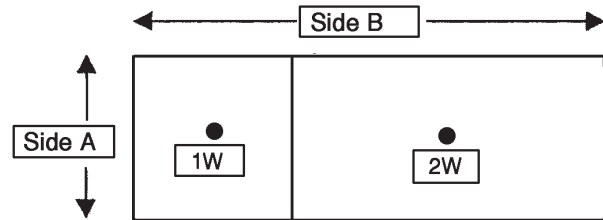

FIGURE 4-2
- ▶ Use Table 4-1 and Figure 4-2 to determine maximum module size for each nozzle.
Referring to Table 4-1 and Figure 4-2, if the **A** dimension is 8 in. (203 mm), the **B** dimension must not exceed 58 1/2 in. (1,485 mm). In this example, the **B** dimension is 55 in. (1,397 mm), therefore, this duct can be protected with a three flow application.